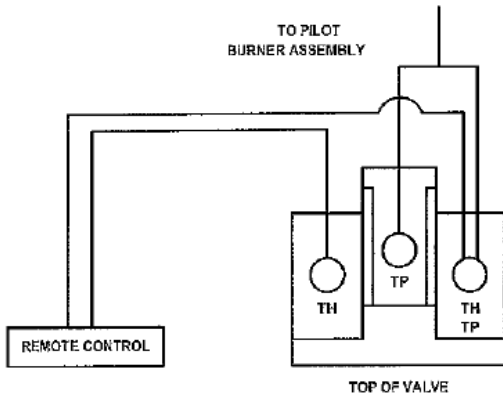

Figure 4
- 2) Connect the leads from the Remote Receiver to the millivolt valve as shown in Figure 4.